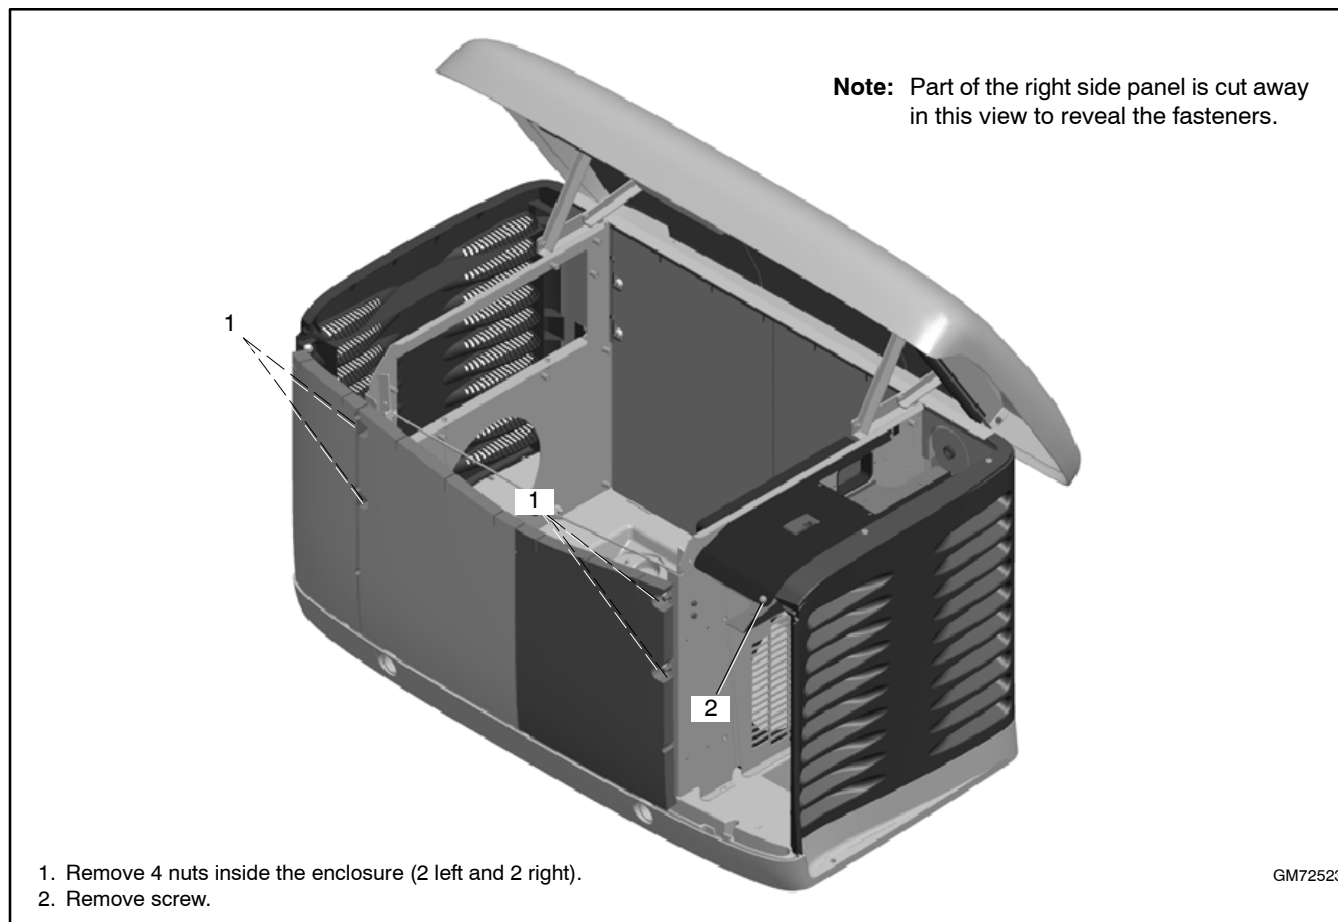

Figure 16 Right Side Panel, 14RESA(L) and 20RESC(L)
21. For 14RESA(L) and 20RESC(L) Models: Remove the right-side panel.
- a. Remove two nuts on each side (total of four nuts). See Figure 16.